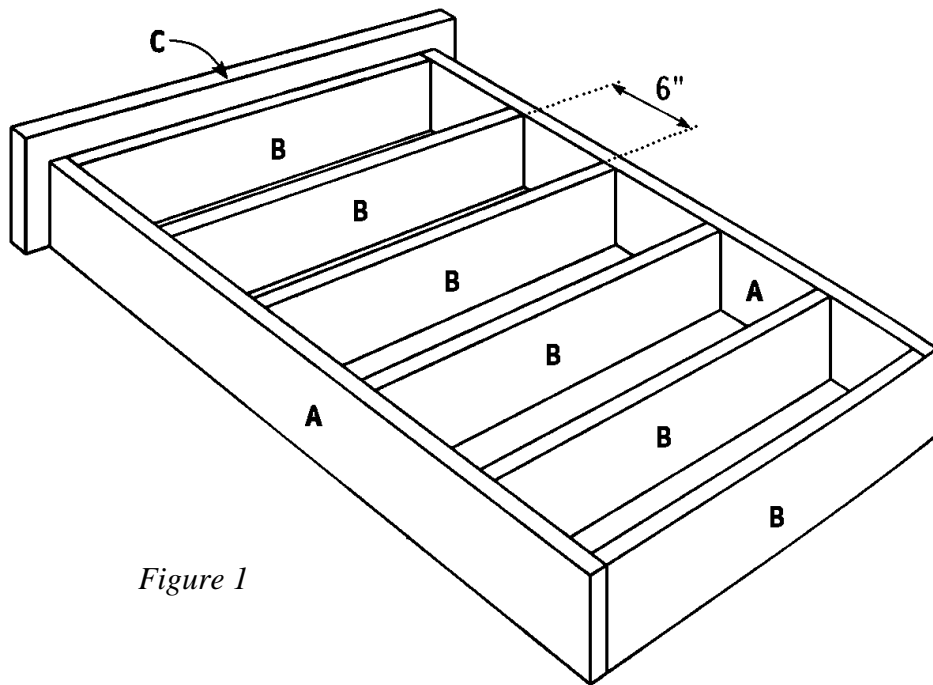

Figure 1
1. Cut two Shelf Sides (A) from 1 x 6 pine, each measuring 34-1/2 inches.
2. Cut six Shelves (B) from 1 x 6 pine, each measuring 24 inches.
3. Place the two Shelf Sides (A) on edge, parallel to each other and 24 inches apart. Using *Figure 1* as a guide, place the Shelves (B) between the Shelf Sides (A). Position two of the Shelves (B) flush with the ends of the Shelf Sides (A), and the remaining four Shelves (B) inside the first two, spaced 6 inches apart. Apply glue to the meeting surfaces, and nail through the Shelf Sides (A) into the ends of the Shelves (B), using three 2" nails on each joint.
4. Cut one Shelf Top (C) from 1 x 8 pine measuring 27 inches.
5. Place the Shelf Top (C) over one of the ends of the assembled Shelves (B) and Shelf Sides (A) as shown in *Figure 1*. Apply glue to the meeting surfaces, and nail through the face of the Shelf Top (C) into the ends of the shelf Sides (A), using three 2-inch nails on each joint.